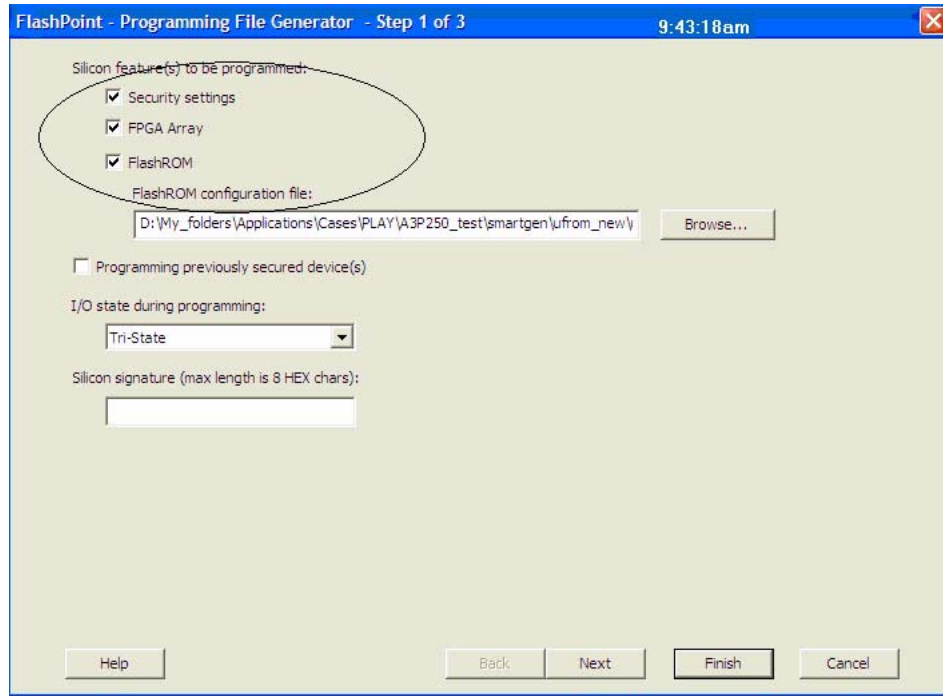
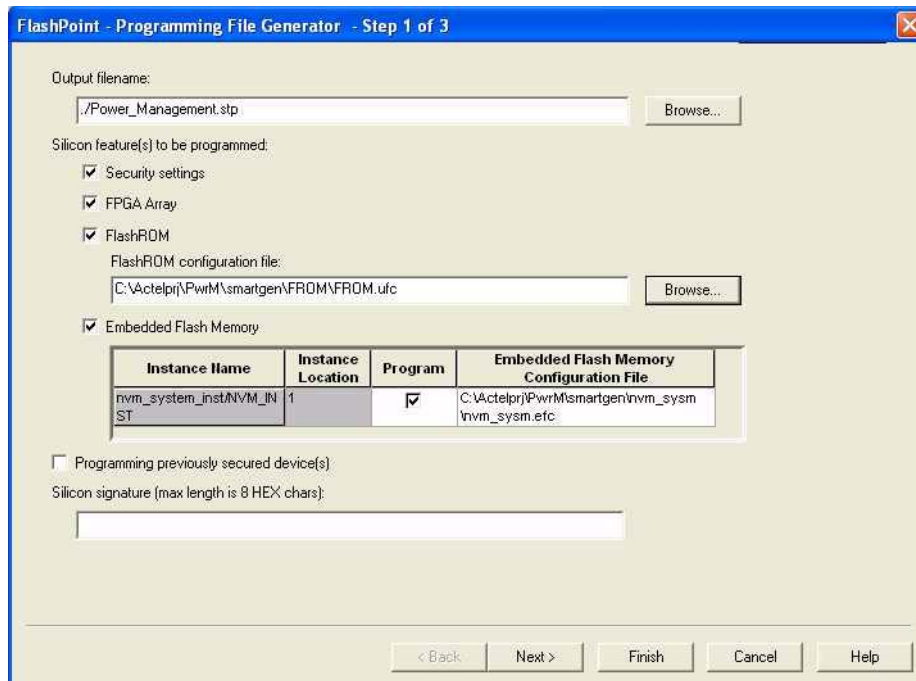
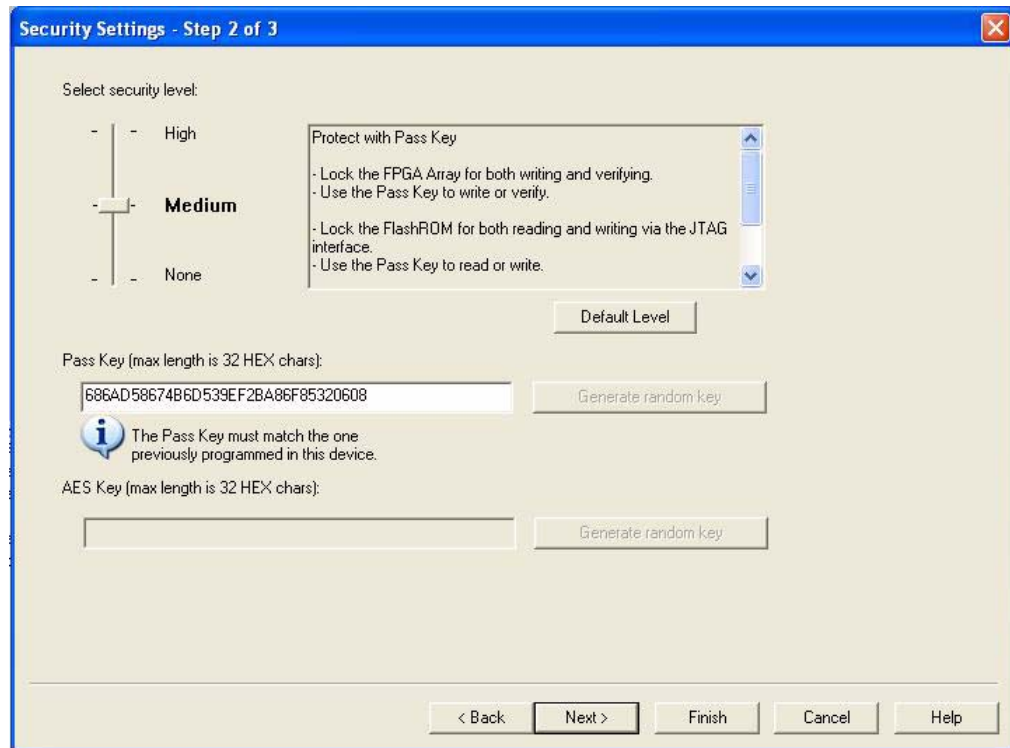

Figure 13-10 • All Silicon Features Selected for IGLOO and ProASIC3 Devices
Figure 13-11 • All Silicon Features Selected for Fusion
Figure 13-19 • FlashLock Pass Key, Previously Programmed Devices
1. Select the **Silicon features to be programmed** (Security Settings, FPGA Array, FlashROM, Flash Memory Blocks), as shown in Figure 13-10 on page 13-14 and Figure 13-11 on page 13-14. Click **Next**.
Figure 13-10 on page 13-14 and Figure 13-11 on page 13-14 show the option **Programming previously secured device(s)**, which the user should select before proceeding. Upon going to the next step, the user will be notified that the same FlashLock Pass Key needs to be entered, as shown in Figure 13-19 on page 13-22.
It is important to note that when the security settings need to be updated, the user also needs to select the **Security settings** check box in Step 1, as shown in Figure 13-10 on page 13-14 and Figure 13-11 on page 13-14, to modify the security settings. The user must consider the following: